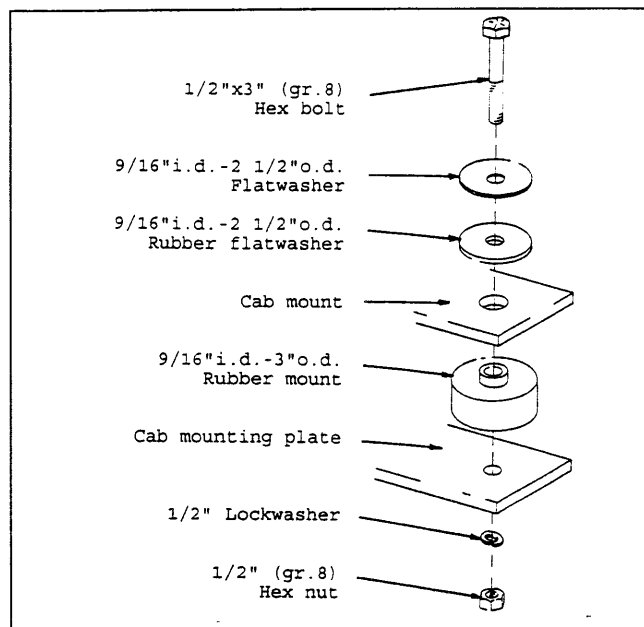

Figure 4
11. **NOW YOU ARE READY TO MOUNT THE ROPS.** Place one rubber mount on each ROPS mounting plate of the front and rear brackets. Lift the ROPS, using the lift bolts located near the roof, directly above the unit. Slowly, lower the ROPS until the ROPS mounts rest solidly on the rubber mounts. Bolt the ROPS snugly to the front and rear brackets as shown in Figure 4.